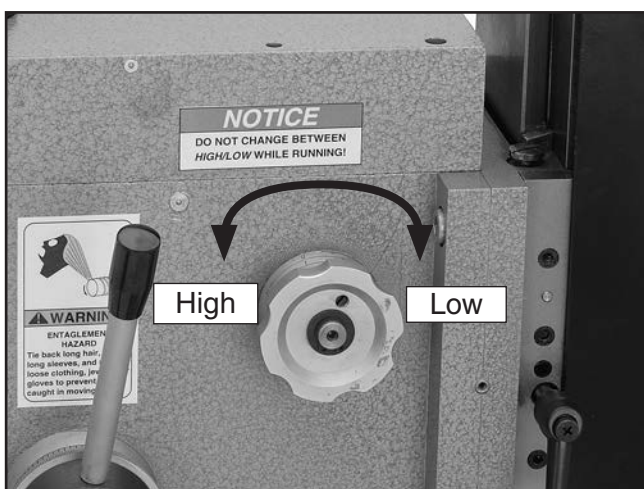

Figure 7. HIGH/LOW gear change knob.
2. Loosen the hex nut(s), as shown in **Figure 7**, and turn the feet until the mill/drill is level side-to-side and front-to-back.
3. With the spindle at a complete stop, shift the HIGH/LOW gear change knob into the low range (see **Figure 7**). Set the forward/reverse switch to FWD.